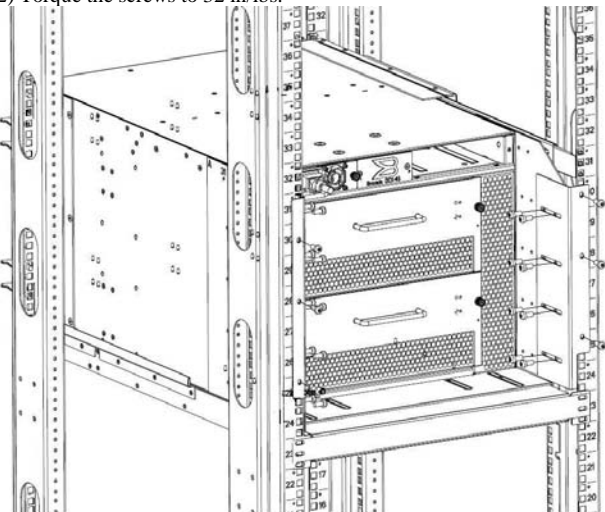

Figure 1-2
5. Secure the L-brackets to the cabinet rails using the 6 10-32 pan head screws with square cone washers supplied with the kit, making sure to notice the left and right side brackets are different. The left side and right side L-brackets are part marked with "A" and "B" respectively. (see Figure 1-2) Torque the screws to 32 in/lbs.
6. Once the L-brackets are mounted to the rails they can be secured to the side plates using the 18 10-32 pan head screws with square cone washers supplied with the kit. (see Figure 1-2) Torque the screws to 32 in/lbs.